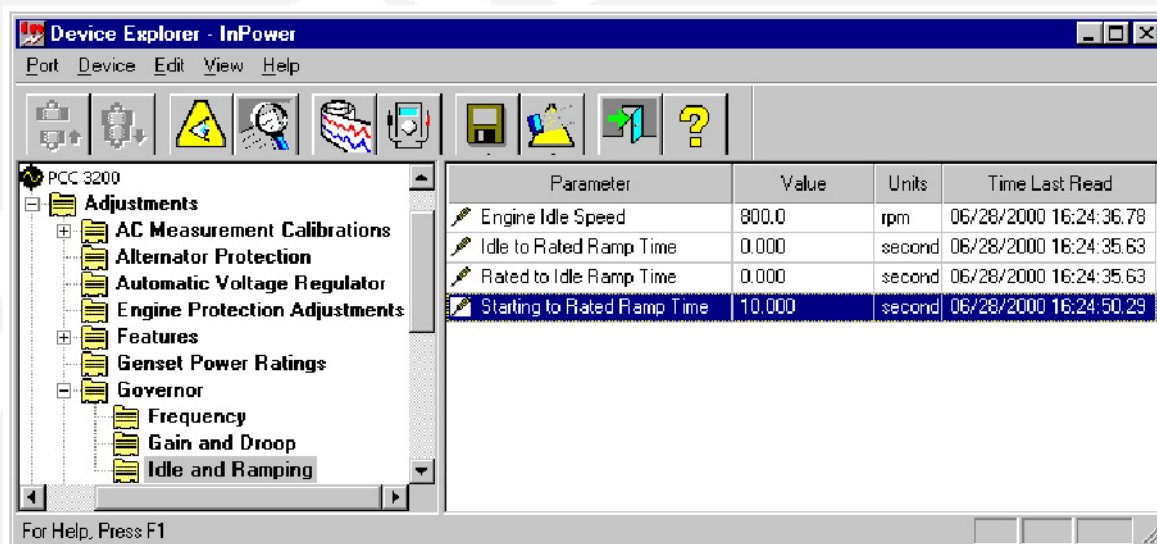

FIGURE 80. ADJUSTMENTS - GOVERNOR - IDLE AND RAMPING
**Example:** In this example, InPower is used to increase the **Starting to Rated Ramp Time** (refer to Figure 80). Select the Governor - Idle and Ramping feature, from the **Adjustments** directory. Double click on the Value cell for **Starting to Rated Ramp Time**. This adjustment sets the desired time interval between starting and rated power. The current setting will be highlighted. For this example, enter 10 (for 10 seconds) into the Value cell. (For faster startup and for NFPA 110 compliance, set this value to zero.)